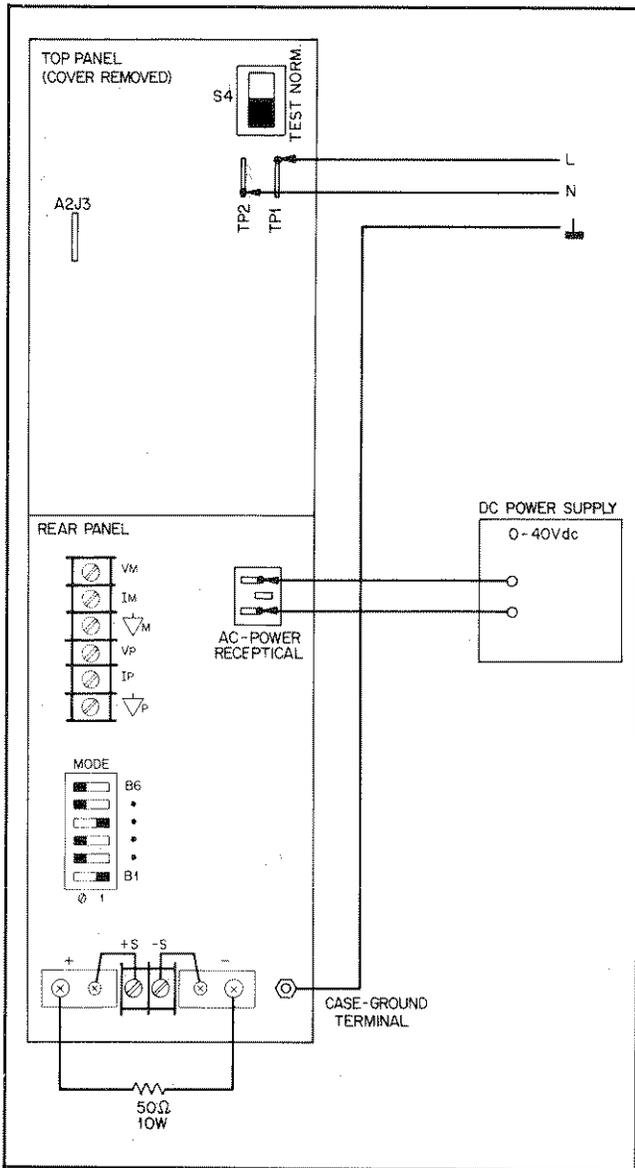

Figure 5-9. Main Troubleshooting Setup
5-74 Figure 5-9 shows the troubleshooting setup for trouble shooting all of the unit except the front panel and initial no-output failures (see paragraph 5-77). The external power supply provides the unit's internal bus voltage. The ac mains cord connects directly to the unit's A1T3 bias transformer thereby energizing the bias supplies, but it does not connect to the input rectifier and filter because that would create the bus voltage. With the external supply the unit operates as a dc-to-dc converter. The supply biases the A4Q3 and A4Q4 PFETs with a low voltage rather than the 320 Vdc bus voltage. This protects the PFETs from failure from excess power dissipation
The troubleshooting setup of Figure 5-9 connects the ac mains voltage to the A1F2 fuse, the A1S2 Mains-Voltage Select Switch, the fan and printed-circuit traces at the left edge of the A1 main board. Be extremely careful when working on the unit with the protective inside cover removed to avoid touching the ac mains voltage.
- e. Complete the setup of Figure 5-9 by attaching an ac mains cord to test points TP1 (L, black wire) and TP2 (N, white wire) and connect the green ground wire to the unit's case ground terminal or a suitably grounded cabinet screw. TP1 and TP2 are accessible through the cutout on the left side of the unit and are at the left edge of the A1 main board.